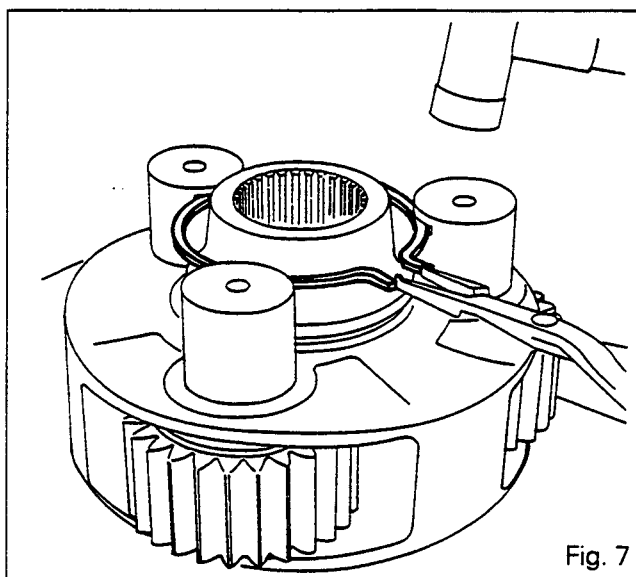

Fig. 7
10. Clean the planetary carrier (21), the pins (16) and the planetary gears (18). Check the condition of the parts.
11. Coat the needle rollers (20) with "Amber Technical" or an equivalent grease. Into each planetary gear (18) insert two rows of needle rollers separated by a spacer (19).
12. Fit the planetary gears (18) and the thrust washers (17).
13. Fit three pins (16) with the circlip (15) (Fig.7).
15. Tap lightly on the three pins to insert the circlip (15) into the planetary carrier groove (Fig.7).